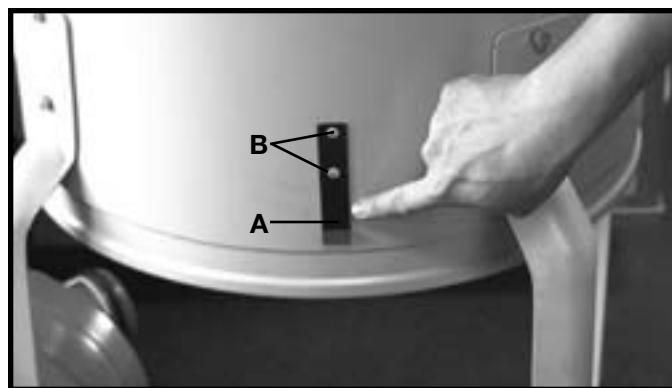

Fig. 14A
9. Attach the lower dust bag retaining clip (A) Fig. 14A, to the dust collector drum. Align the two holes (B) in the retaining clip (A) Fig. 14A, with the two holes in the drum. Insert a 1/4-20x5/8" hex head screw through the holes in the retaining clip and the holes in the drum. Place a 1/4" flat washer onto the screws, and thread 1/4-20 hex nut s on the screws and tighten securely. Repeat this process for the three remaining sides of the drum.